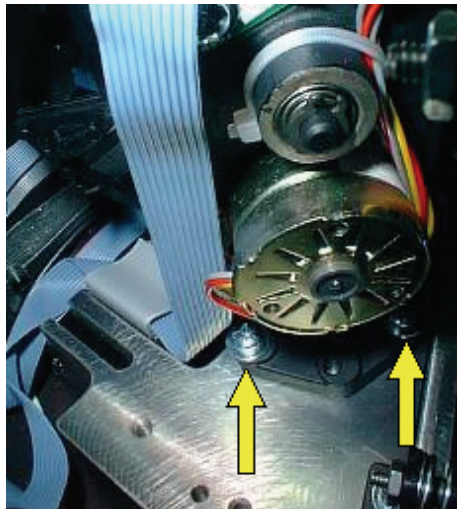

Figure 94 Excitation filter wheel screws
4. Undo the two screws and remove the excitation filter wheel, as shown in Figure 94.